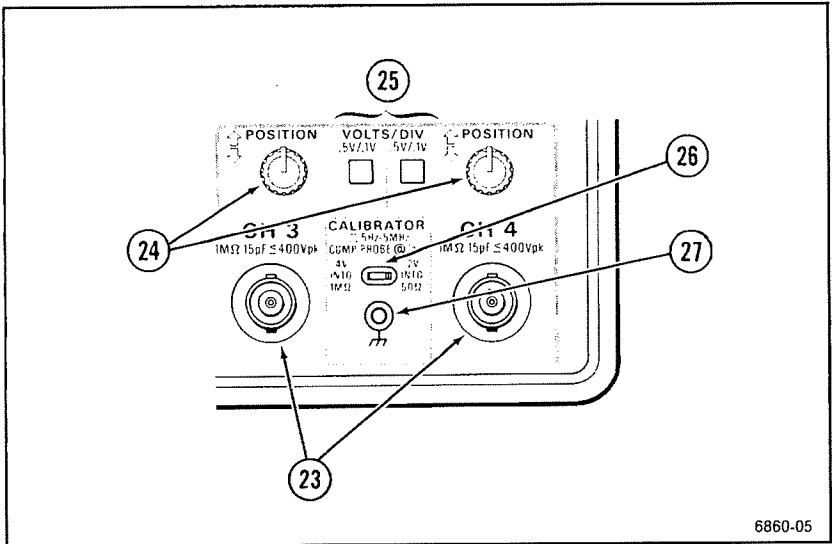

Figure 5-4. CH 3 and CH 4 controls and connectors and CALIBRATOR output.
Refer to Figure 5-4 for the location of items 23 through 27.